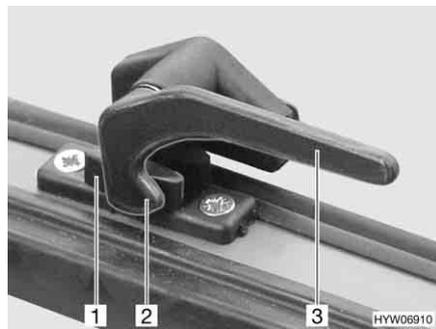

Fig. 49 Catch lever in "closed" position
- Turn the catch lever (Fig. 49,3) a quarter turn towards the centre of the window.
- Turn the catch lever (Fig. 49,3) a quarter turn towards the window frame. The locking catch (Fig. 49,2) is located on the inside of the window catch (Fig. 49,1).
- Firmly closed (Fig. 49)